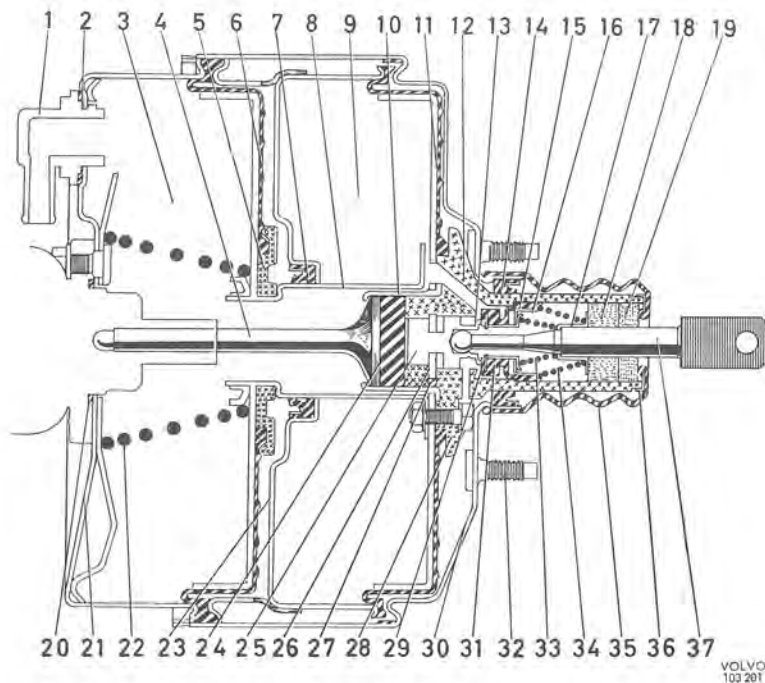

Fig. 5-68. Power cylinder
This is a mechanical tandem-type power-boost device located between the brake pedal and the master cylinder, see Fig. 5-6. Due to the power cylinder, which is assisted by vacuum from the engine induction manifold, less pedal pressure is required when braking. The construction as well as the designation and location of the parts are shown in Fig. 5-68. The power cylinder functions as follows.
5. Lift up the brake pedal. Remove the rubber cover (35, Fig. 5-68).